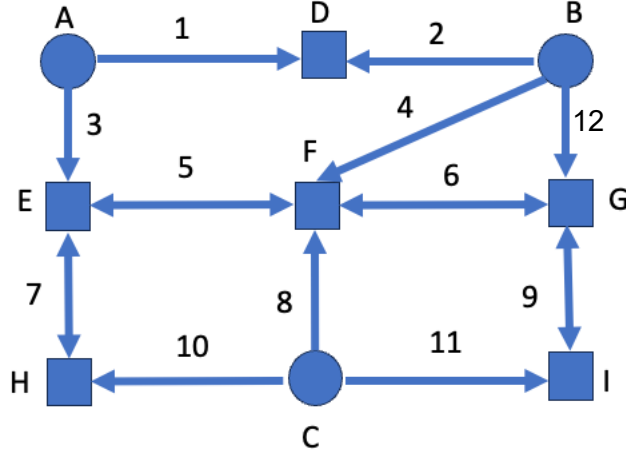

Figure 2: Water Network for Question 2
3. Figure 2 below illustrates the water network of Newville. The lines are water pipelines numbered from 1 through 11. The arrows on the lines are possible direction(s) of flow of water in these pipelines. The circles are water sources numbered A, B, C. The squares are houses D, E, F, G, H, I. The maximum possible capacity of the water sources are (the sources can operate at less than the maximum capacity): A: 100 Units, B: 100 Units, C: 120 Units. Demands of water in the houses are: D: 50 Units, E: 60 Units, F: 40 Units, G: 30 Units, H: 70 Units, I: 40 Units. Since the houses are at different elevation and the pipes are of different diameter, the cost of transporting water is different in the different pipes. These costs per unit of water are: Pipe 1: \$2, Pipe 2: \$3, Pipe 3: \$4, Pipe 4: \$2, Pipe 5: \$3, Pipe 6: \$2, Pipe 7: \$4, Pipe 8: \$1, Pipe 9: \$2, Pipe 10: \$4, Pipe 11: \$5, Pipe 12: \$3. Formulate an LP to minimize the total cost of transporting water so as to meet the water demands of each house.